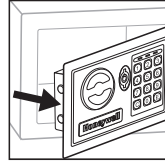

Figure 4
4. Turn knob clockwise to the right and pull safe door open (Figure 4).